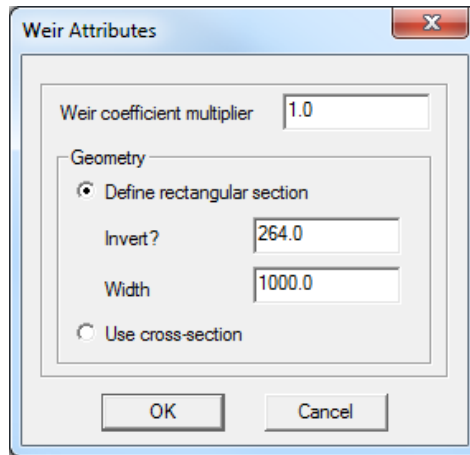

Figure 8 Values for Weir Attributes
4. Set the Invert to 264 meters (this value comes from the elevation data for the channel) and the Width to 1000 meters (this is wide enough to cover the majority of the floodplain). Make sure the dialog looks like Figure 8 and Click “OK” twice to exit the dialogs.